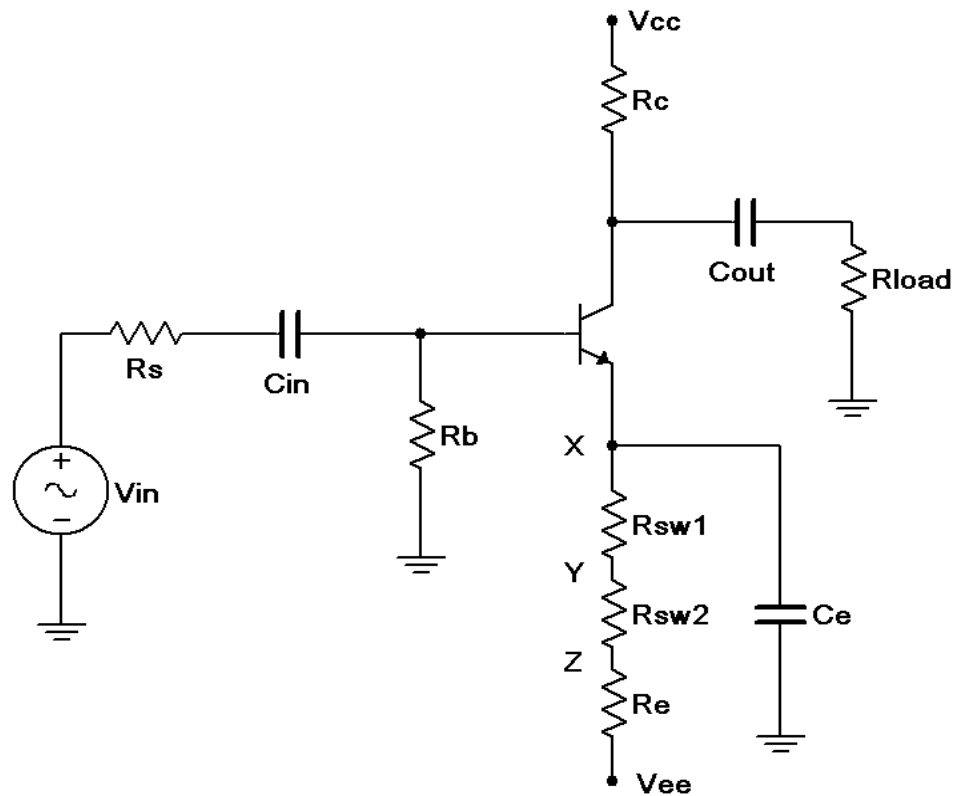

Figure 1
1. Consider the circuit of Figure 1 using $V_{cc} = 15$ volts, $V_{ee} = -12$ volts, $R_s = 10$ k Ω , $R_b = 33$ k Ω , $R_e = 22$ k Ω , $R_{sw1} = 220$ Ω , $R_{sw2} = 1$ k Ω , $R_c = 15$ k Ω , $R_{load} = 20$ k Ω , $C_{in} = C_{out} = 10$ μ F and $C_e = 470$ μ F. Using the approximation of a negligible DC base voltage, determine the DC collector current and r'_e , and record these in Table 1. Using the r'_e , calculate the expected Z_{in} , $Z_{in(base)}$, and A_v for the X, Y and Z connection points for C_e (shown at position X in the schematic). Record these in Table 2. If a transistor curve tracer or beta checker is not available to get an approximate value of beta for the transistor, estimate it at 150.
2. Build the circuit of Figure 1 using $V_{cc} = 15$ volts, $V_{ee} = -12$ volts, $R_s = 10$ k Ω , $R_b = 33$ k Ω , $R_e = 22$ k Ω , $R_{sw1} = 220$ Ω , $R_{sw2} = 1$ k Ω , $R_c = 15$ k Ω , $R_{load} = 20$ k Ω , $C_{in} = C_{out} = 10$ μ F and $C_e = 470$ μ F. Connect C_e to position X. Disconnect the signal source and check the DC transistor voltages to ensure that the circuit is biased correctly (note, the DC equivalent circuit is very similar to the ones used in the Emitter Bias Exercise and should exhibit similar DC voltage readings).